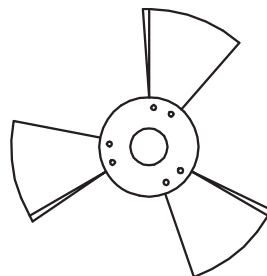

Fig. 17-15
6. Create the cooling fan shown in Fig. 17-15.